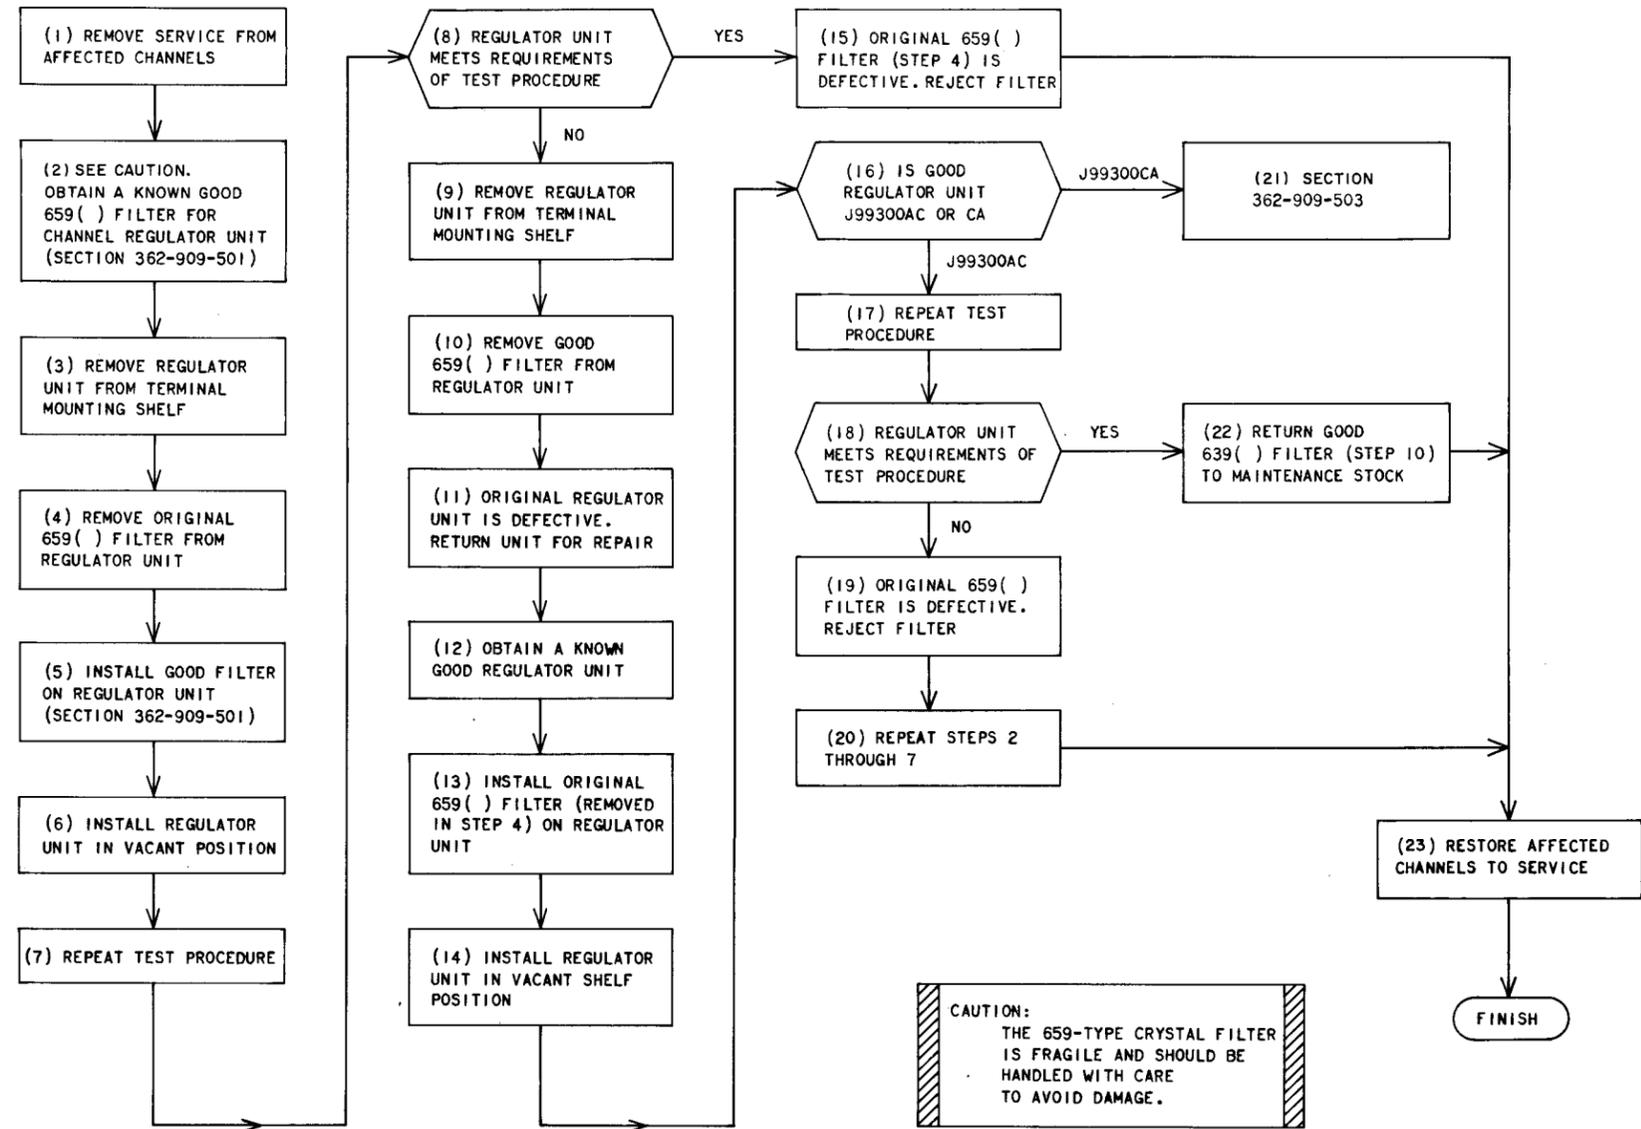

Fig. 5—Trouble-Locating Diagram—Channel Regulator Unit
This section is reissued to specify the need for caution in handling the 659-type filter and to include a trouble-locating procedure (Fig. 5) to determine a defective filter or regulator unit, or both. *The 659-type filter is a fragile, crystal filter and should be handled with care to avoid damage.* Since this revision is of a general nature, arrows ordinarily used to indicate changes have been omitted. This reissue does not affect the Equipment Test List.
- 15 If the requirement of Step 14 is met, proceed to Step 16. If it is not met, check the channel group modem carrier power output (Section 362-906-501). A carrier signal within limits and a bias voltage out of limits indicates a defective double-channel regulator unit. Proceed to Fig. 5 to determine whether the 659-type filter or the regulator unit, or both, should be replaced.
23	If the requirement of Step 22 is met, proceed to Step 24. If it is not met, proceed to Fig. 5 to determine whether the 659-type filter or the regulator unit, or both, should be replaced.
27	If the requirement of Step 26 is met, proceed to Step 28. If it is not met, proceed to Fig. 5 to determine whether the 659-type filter or the regulator unit, or both, should be replaced.